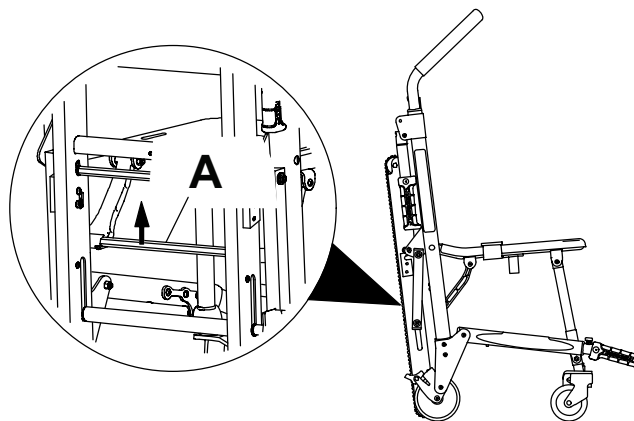

Figure 2 – Folding the chair
4. Pull up on the chair (red) fold lock bar (A) at the rear of the chair (Figure 2).